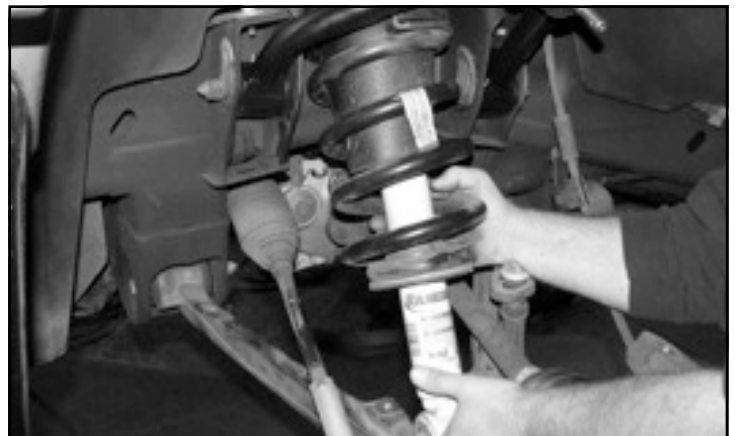

FIGURE 35 - STEP 34
34. Locate the three 7/16" nylock nuts and install the coil over into the upper shock mount. Leave loose at this time. **SEE FIGURE 35**